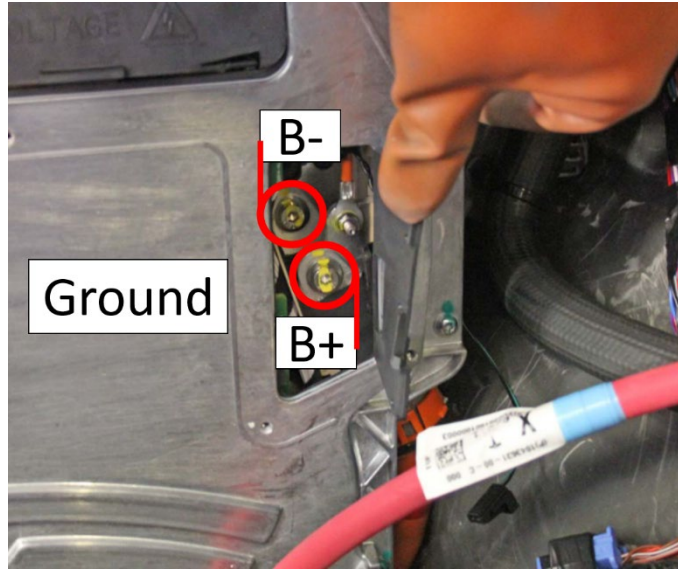

Figure 5
8. Use the charger casing as a chassis ground. Measure voltage across following locations (Figure 5):